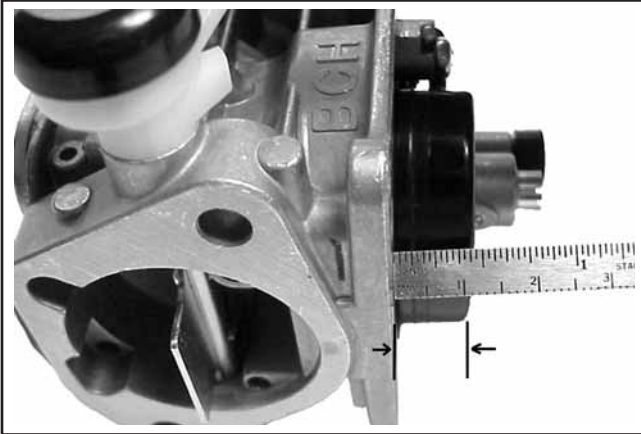

Figure 5-23. Checking Float Height.
13. The correct float height adjustment is **12.0 mm (0.472 in.)** measured from the float bottom to the body of the carburetor. See Figure 5-23. Adjust the float height by carefully bending the metal tang of the float.